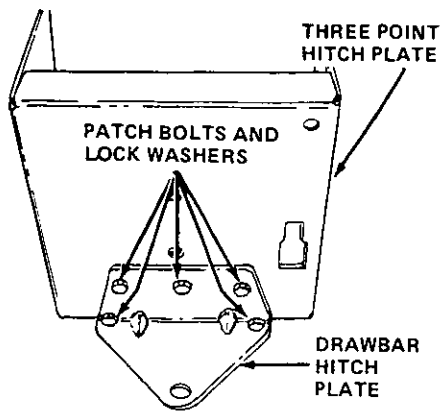

FIGURE 13
9. Using the patch bolts and lock washers removed in the previous step mount the drawbar hitch plate to the three point hitch plate assembly. See figure 13.